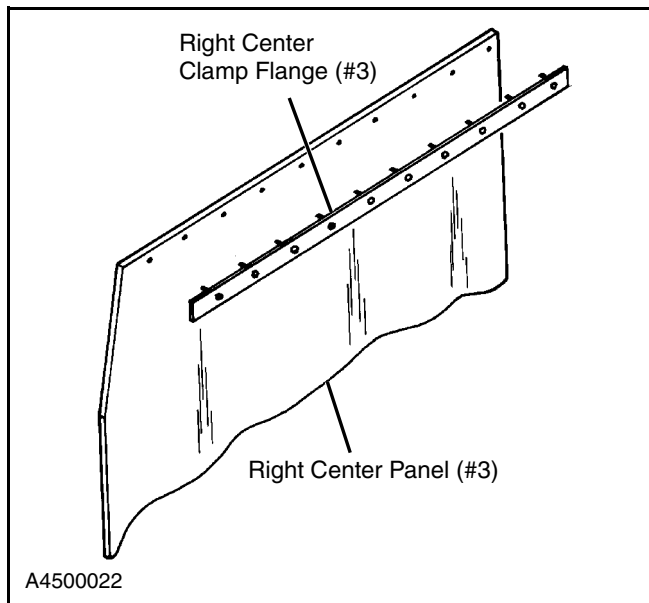

Figure 20
4. Insert the right center clamp flange (#3) through the right center panel (#3). (See Figure 20.)